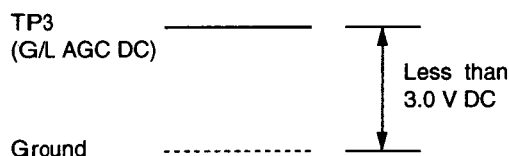

Fig. 4-2-13
- Confirm that the DC level of the G/L AGC signal becomes less than 3.0 V DC as shown in the Fig. 4-2-13.